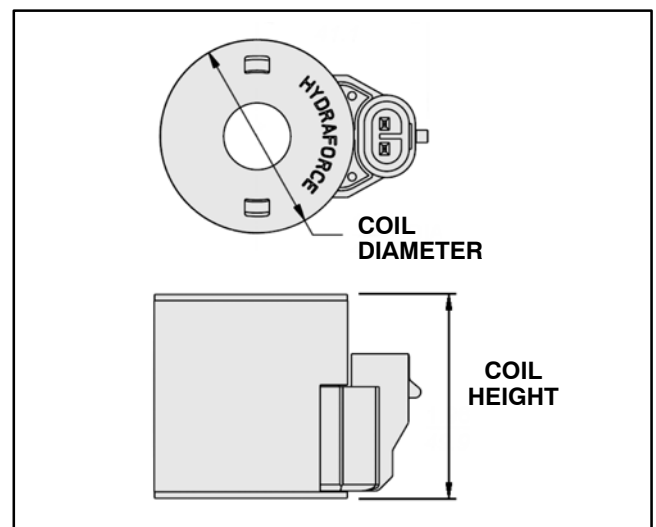

Figure 25
2. Identify coil resistance specification by measuring the coil diameter and coil height (Fig. 25).